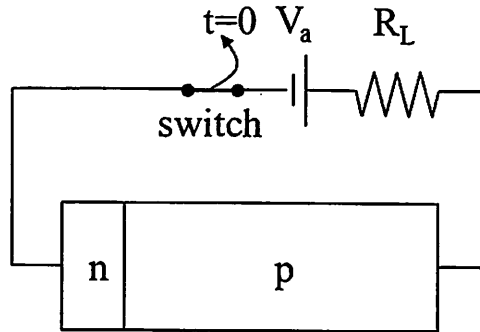

Figure 2.1 Bias circuit for a pn diode with switch.
Table 2.1: Material parameters for the diode in Fig. 2.1.
- a) Calculate the current flowing through the diode of Fig. 2.1 when a forward bias voltage of $V_d = 0.5\text{ V}$ appears across the diode. [5]
- b) At $t = 0$, the switch in the circuit of Fig. 2.1 is opened. Derive the expression of the time variation of the voltage across the diode, $v_d(t)$. Define all parameters and explain all assumptions you make. [7]